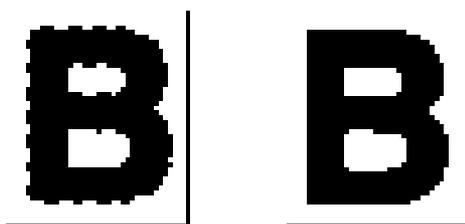

Figure 1-2. Traditional Deskew vs. VRS
- Performs automatic deskew without character degradation. Traditional deskew software produces jagged edges, but VRS character edges remain smooth and precise, even after the deskew process (Figure 1-2).